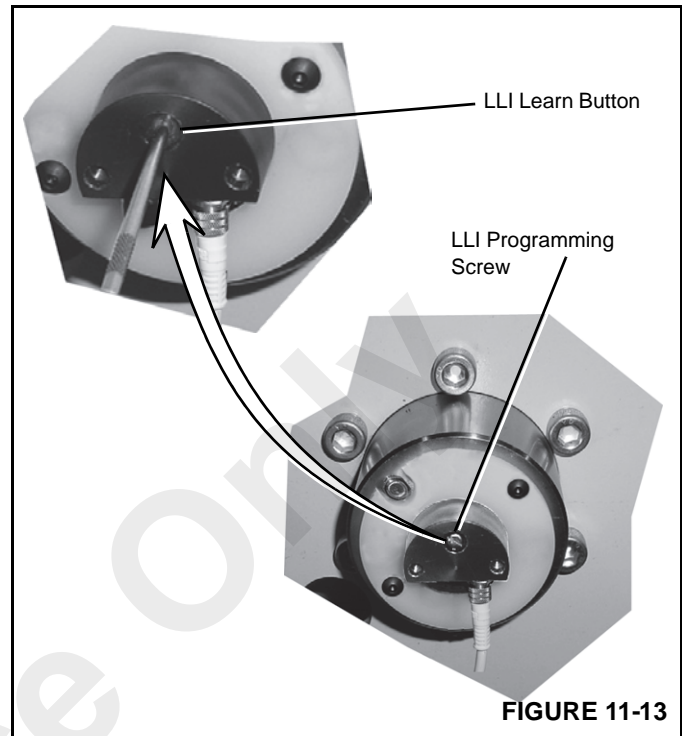

FIGURE 11-13
2. Remove the programming screw on the DRI as shown in Figure 11-13.
4. With a ballpoint pen or small punch, push and hold the learn button (Figure 11-13) and return power to the LLI by reconnecting the DRI cable.